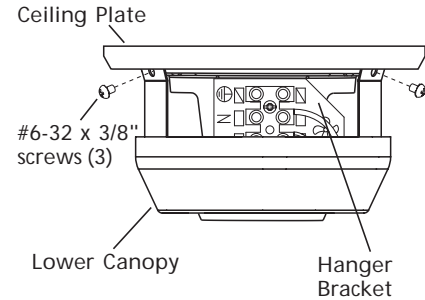

Figure 5a - Attaching Lower Canopy and Hanger Bracket to Ceiling Plate
2. Raise the lower canopy up over the hanger bracket and align the three holes in the lower canopy with the three holes in the ceiling plate and the three threaded screw holes on the hanger bracket as shown in Figure 5a. You may need to slightly spread the tabs apart on the lower canopy to align them with the holes on the ceiling plate and hanger bracket.